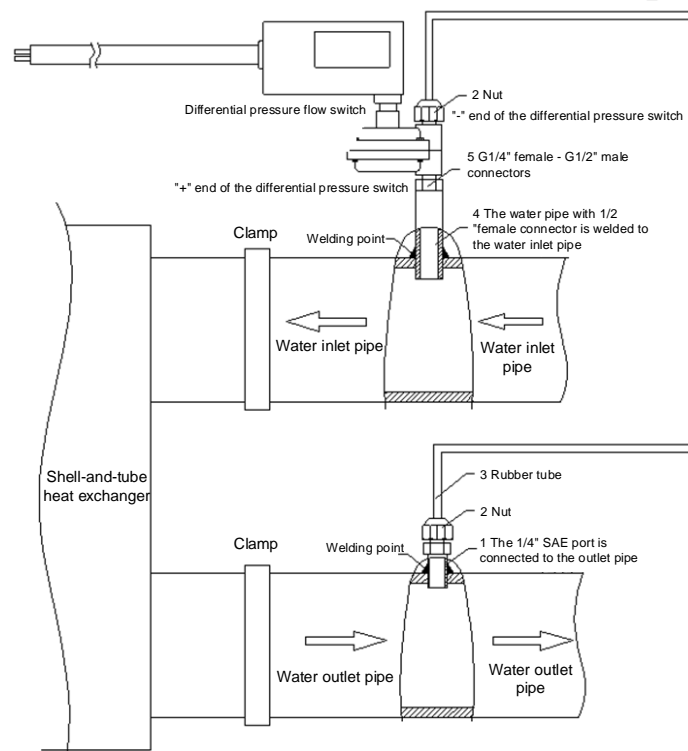

Figure 7 Installation diagram of differential pressure flow switch of shell and tube heat exchanger
The two pressure measurement openings need to be connected by rubber tubes, which should be placed away from positions prone to damages. For the installation diagram, refer to Figure 7.
6. Apply rubber insulation materials on the copper shell of the water differential flow switch to avoid condensate water. For the entire installation procedures, refer to Figure 7.